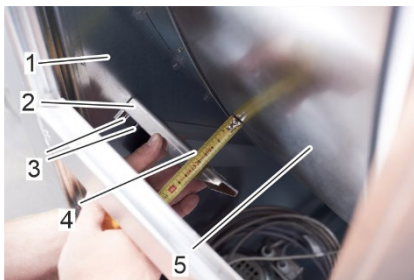

Fig. 69: Align clock sensor to the rotor
1. Align the clock sensor holder (Fig. 69/2) inside the rotor housing (Fig. 69/1) in a distance of 55 mm (Fig. 69/4) parallel to the rotor (Fig. 69/5).
2. Mark the position of the long holes (Fig. 69/3) on the rotor housing with a clearly visible waterproof pen.